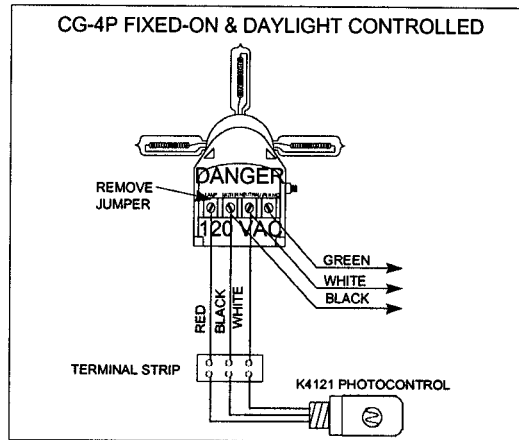

Figure 4-3
- g. To daylight control the light, install an Intermatic K4121 photocontrol in an unused cable entrance (the step-down bushing included in the installation kit will be needed) and wire as shown in Figure 4-3.